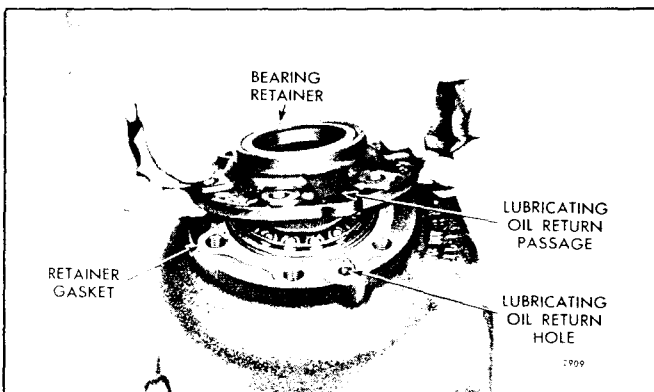

Fig. 97 - Installing Drive Shaft Bearing Retainer on Gear Housing
- b. Place the bearing retainer straight over the bearing and gasket with the oil drain notch in the retainer directly over the oil hole in the gear housing, and the bolt holes in the retainer and gear housing in alignment as shown in Fig. 97.